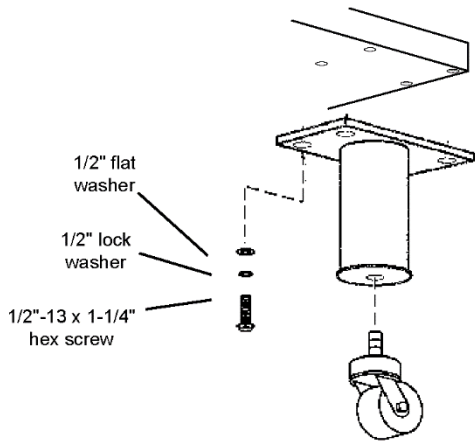

Figure 9. Leg Extension and Casters Installation
1. Install the four leg extensions onto the base pad using the 3/8"-16 x 1" screws, 3/8" flat washers, and 3/8" lockwashers supplied in the Base Pad Kit. See Figure 9. Check that the finished sides of each leg extension face OUTWARDS. One rear leg should be attached using three 3/8"-16 x 1" screws and the 3/4" eyebolt, as shown in Figure 9. This eyebolt acts as the anchor point for the restraint cable assembly (see Part C, Restraint Cable Installation).
2. If your oven is equipped with the lower shelf, position it in place as shown in Figure 9. Check that the lip on the shelf faces DOWN. Seal joint between leg and shelf with NSF listed silicone.